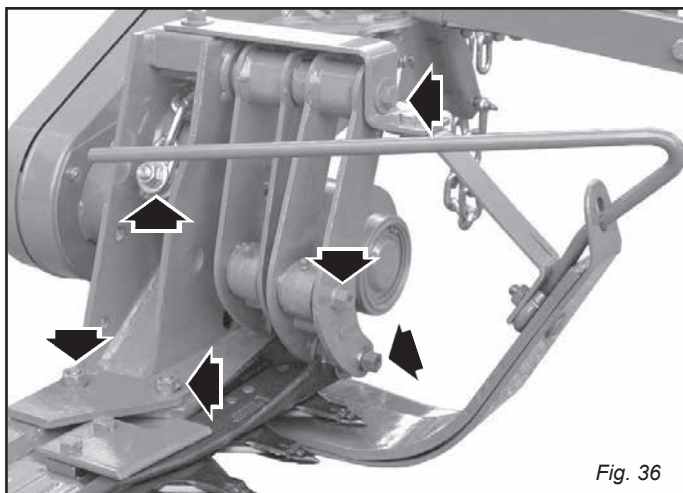

Fig. 36
- During the first working hours, check that the screws are tight (Fig. 36).
- Check the tightness of the connecting rod bolts regularly (Fig. 36).